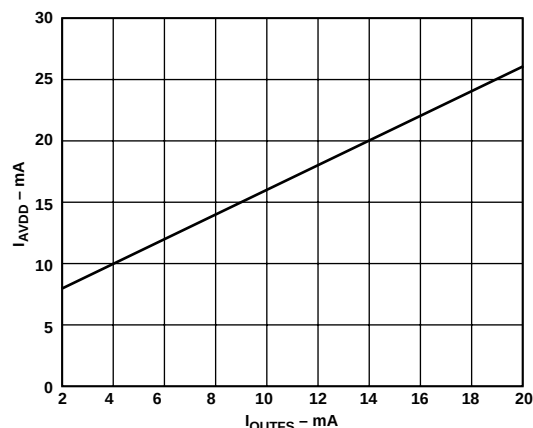

Figure 30.  $I_{AVDD}$  vs.  $I_{OUTFS}$
The power dissipation,  $P_D$ , of the AD9764 is dependent on several factors, including: (1) AVDD and DVDD, the power supply voltages; (2)  $I_{OUTFS}$ , the full-scale current output; (3)  $f_{CLK}$ , the update rate; and (4) the reconstructed digital input waveform. The power dissipation is directly proportional to the analog supply current,  $I_{AVDD}$ , and the digital supply current,  $I_{DVDD}$ .  $I_{AVDD}$  is directly proportional to  $I_{OUTFS}$ , as shown in Figure 30, and is insensitive to  $f_{CLK}$ .